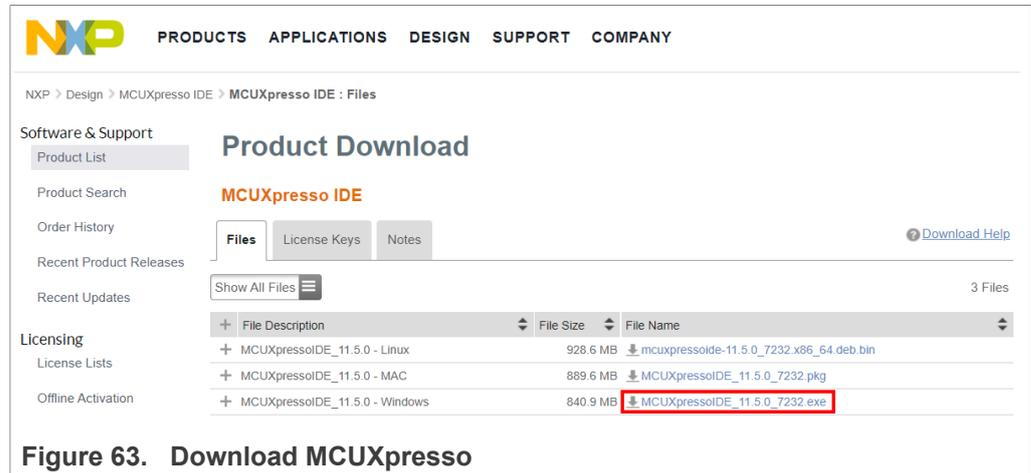

Figure 63. Download MCUXpresso
- Select your MCUXpresso product version and click on the corresponding **File Name** to start the download as shown in Figure 63: